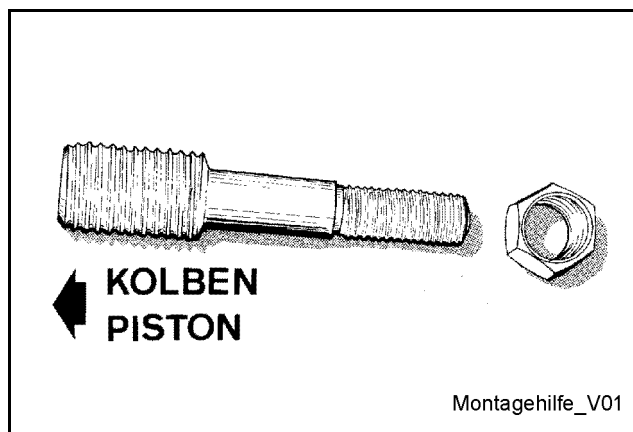

Fig. 196
- Screw two assembly aids (**Fig. 196**) into the threads of the pumping piston. Use two countered nuts for this.